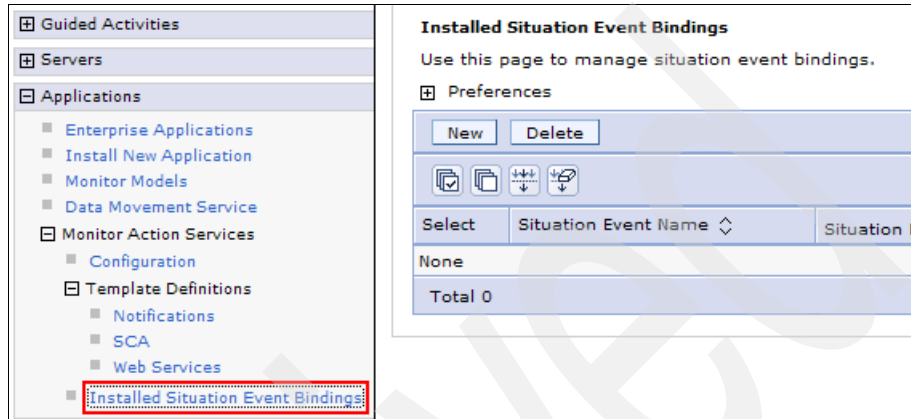

Figure 5-85 Navigating to Installed Situation Event Bindings
- a. Expand **Applications** → **Monitor Action Services** and click **Installed Situation Event Bindings** (Figure 5-85).